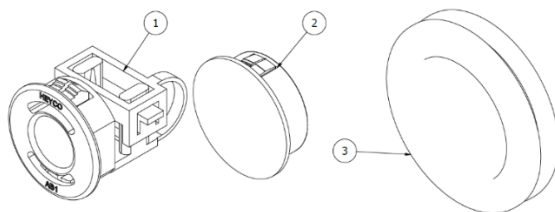

Figure 10 – Thermino Heat Battery Grommets & Strain Reliefs
- Remove the respective rubber grommets (item 3 -Figure 10) in the outer housing and cut the centres (with a cross) with a knife. Re-insert the cut grommets. Do not cut the grommets in place, as this may damage the VIP.
- (Refer to Figure 10) Move the cable strain relief fittings (1) to the side you wish to make the entries / exits. Cover all other holes in the enclosure with the supplied blanking grommets (2).